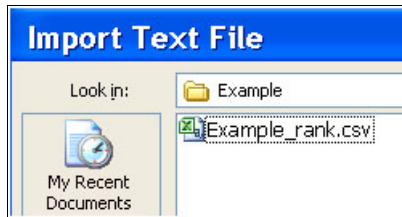

Figure 7 Selecting the CSV file
6. Select the associated file name as shown in the example in Figure 7.